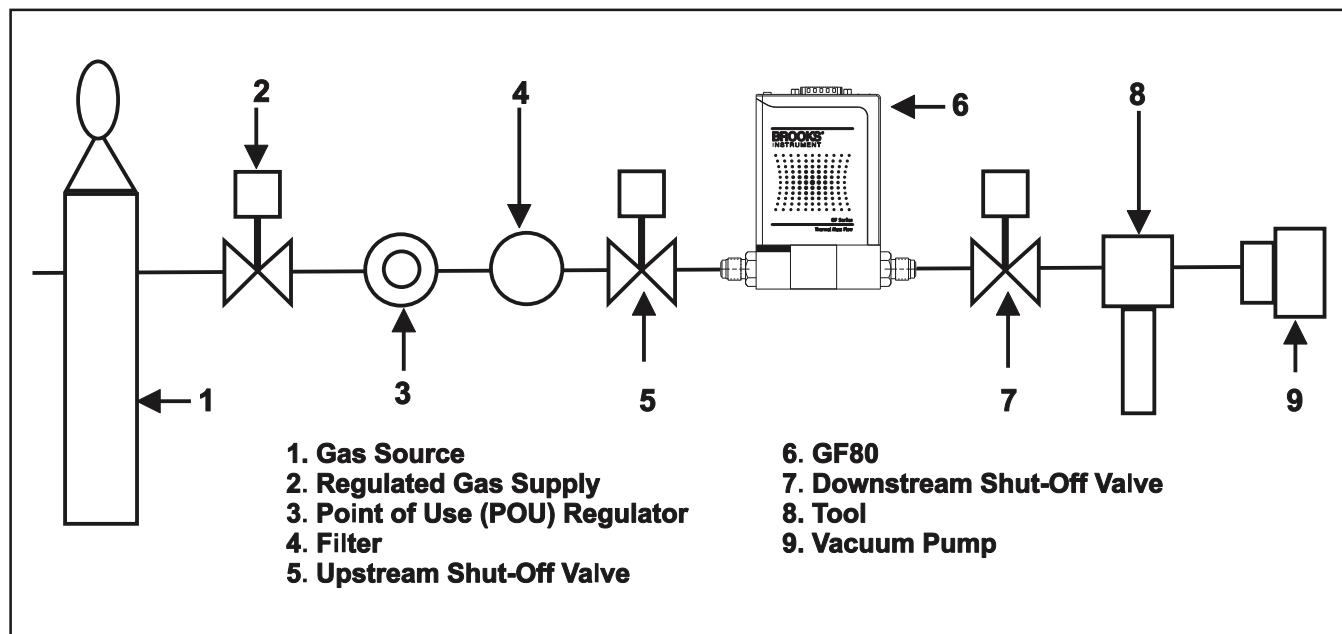

Figure 2-1 Typical Gas Supply Arrangement
Typical gas supply arrangements are shown in Figure 2-1. GF80s are often arranged inside a gas panel. Configure standard configurations or “blanks” for a variety of pure gases and mixtures. As a result, MultiFlo technology enables the user to reduce unique inventory requirements.
For additional safety, it is recommended to close the two valves between the charged gas line and the GF80 Series to be installed. See Figure 2-1 for more details.
3. Refer to Figure 2-1. Open the upstream shut-off valve (5) and close the downstream shut-off valve (7). This eliminates a pressure drop across the GF80 Series and subsequent leakage from the PID control valve inside the GF80 Series.
5. Refer to Figure 2-1. Close the upstream shut-off valve (5) to prevent any pressure effects from the regulator (3).